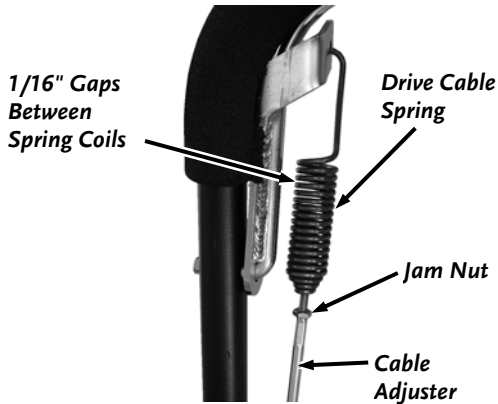

Figure 24
1. Hold the hex of the Cable adjuster with a 6mm Wrench and loosen the Jam Nut with a 10mm Wrench (**Figure 24**).